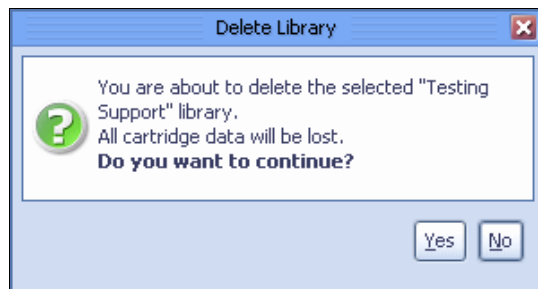

Figure 10-53 Delete Library confirmation menu
2. From the menu bar, select **VT** → **VT Library** → **Delete library**. A confirmation message box opens (Figure 10-53).